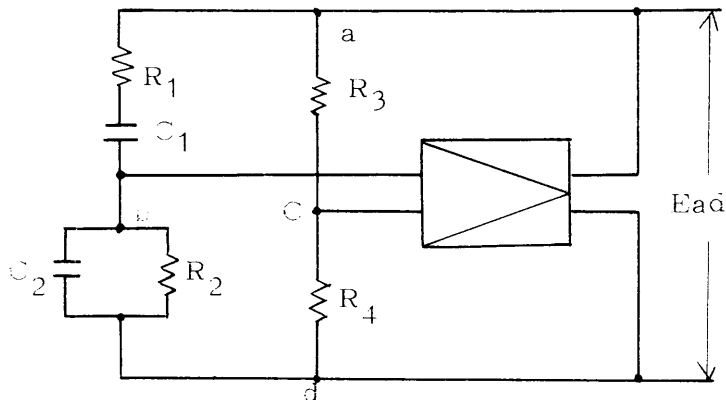

Fig. 2 Wien bridge oscillator circuit
Among low frequency oscillators, RC oscillators which employ R and C as frequency-determining elements are most common. Among RC oscillators, Wien bridge type is most popular. The Wien bridge has many advantages over other oscillation circuits. Its frequency is easily variable, and it operates stably and provides an output signal waveform with very small distortion. The Model 418 RC Oscillator also employs a Wien bridge circuit. The operating principle of the Wien bridge oscillator circuit is shown in Fig. 2.
Referring to Fig. 2, the phase of Ebc becomes the same with that of Ead when the below condition is satisfied.
It is very difficult for the circuit of Fig. 2 to satisfy constantly the condition of equation (4). Oscillation will not start if the condition of equation (4) is satisfied from the beginning. The conditions of oscillation are determined by equations (1) and (3), and they are not related with the oscillation amplitude. Therefore, the condition of equation (3) must be maintained until the oscillation builds up to the required amplitude and, then, the circuit must satisfy the condition of equation (4). To accomplish this requirement, the resistance of R3 or R4 must automatically vary in response to the oscillation amplitude. This is accomplished by using a thermistor as for R3.